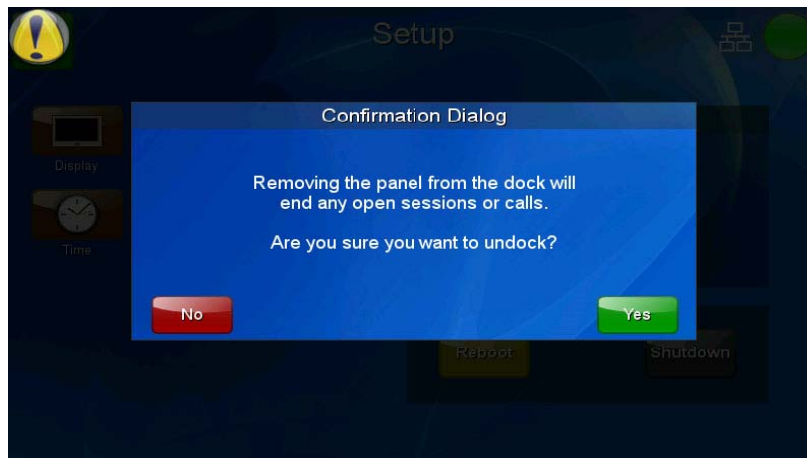

FIG. 16 Undocking confirmation dialog window
3. If the MVP-9000i was conducting a SIP call or Dynamo session at this time, a confirmation dialog window appears to warn that any open sessions or calls will end (FIG. 16). Click **Yes** to undock the panel and disconnect the call/session, or **No** to keep the panel in the Docking Station and continue the call/session.